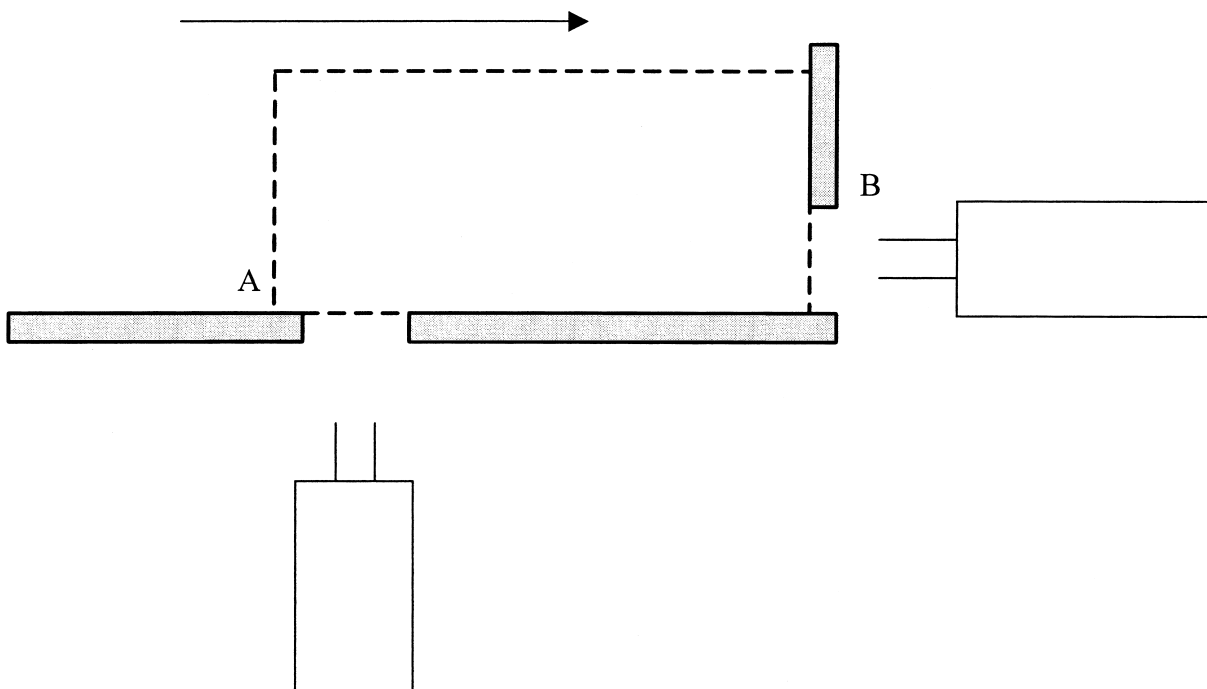

Figure 9
- (a) The diagram **Figure 9** shows part of a production line. The item shown in dotted lines travels from left to right. When it hits the stop at the right hand side a clamp is activated to hold the work as shown.